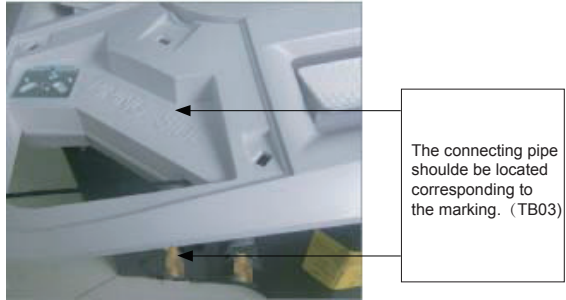

Fig.27
- (1) Set the panel to the unit body by matching the position of the swing flap motor of the decoration panel to the piping position of the panel to the piping position of the unit as shown in Fig.27.
- (2) Install the decoration panel.